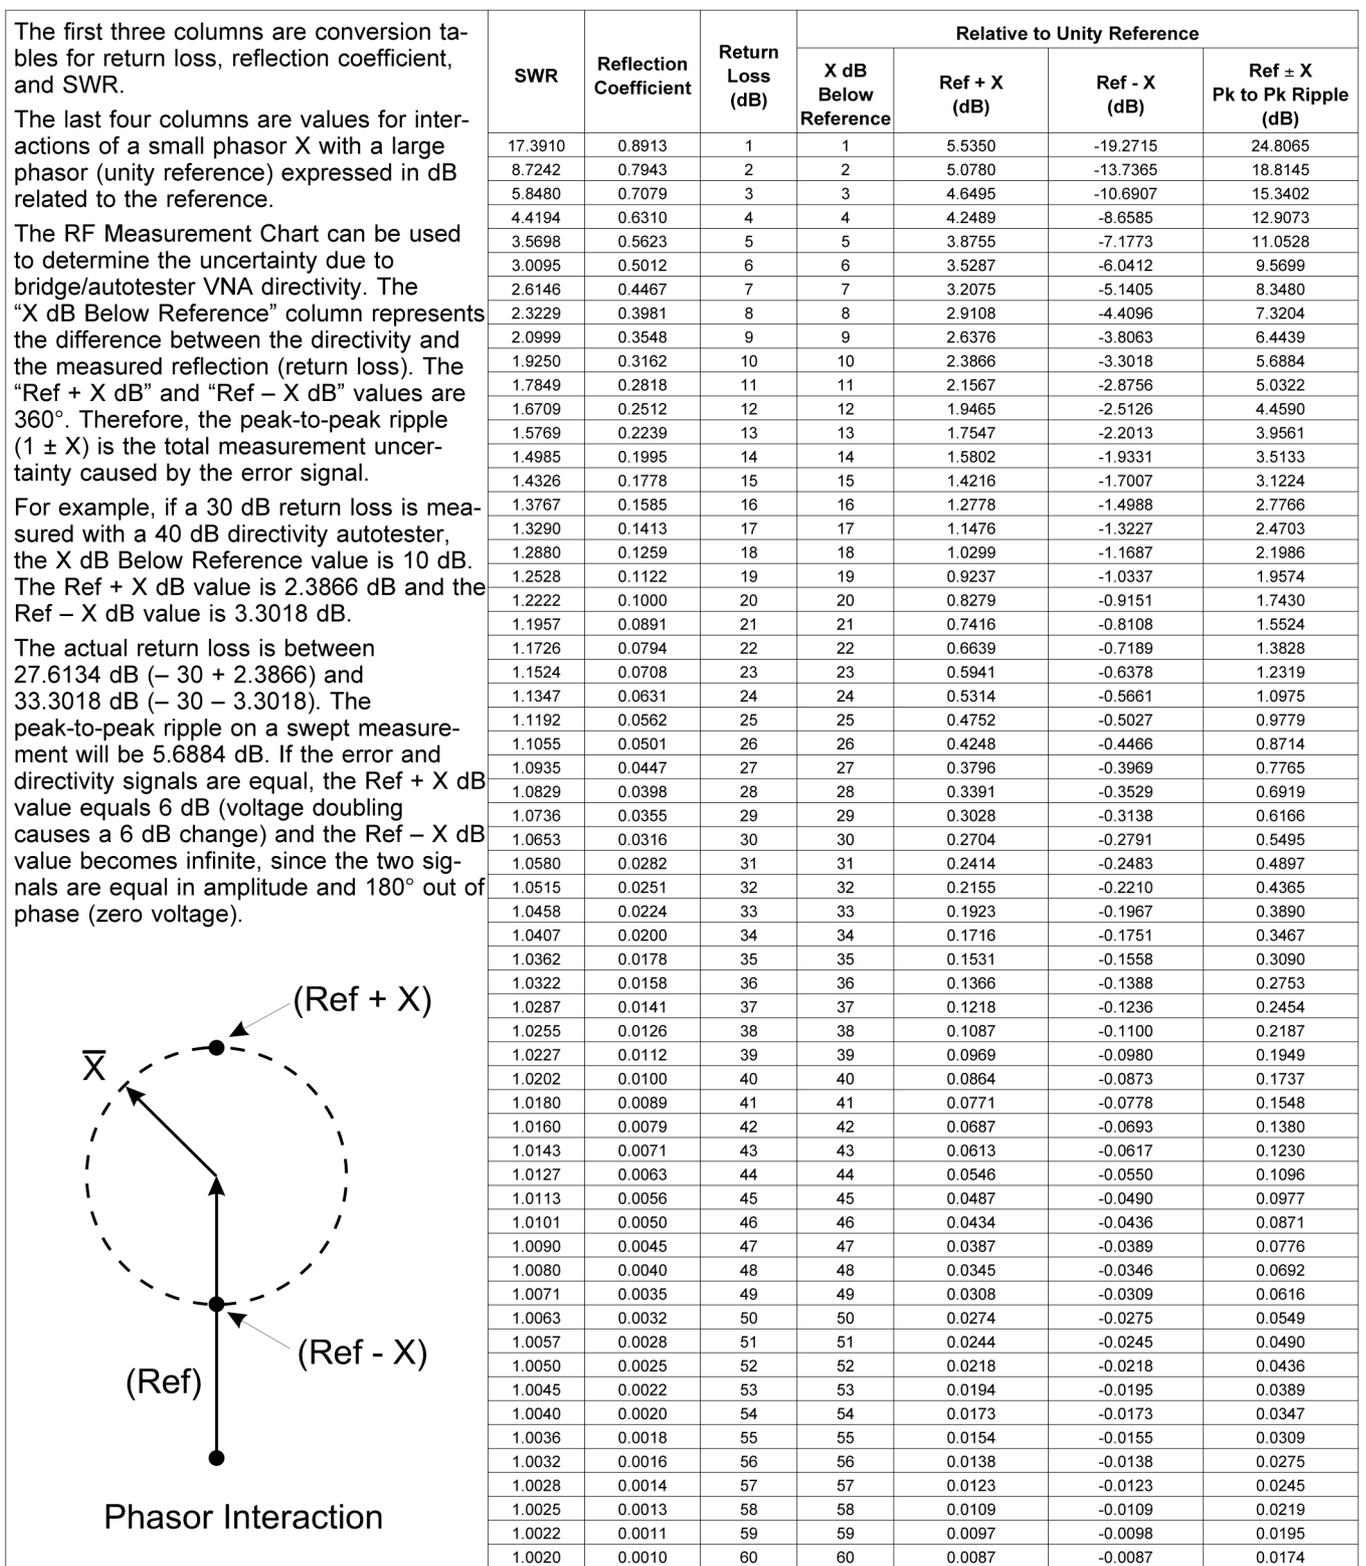

Figure 3-3. RF Measurement Chart
65. Use a RF measurement chart in Figure 3-3 on page 3-9 to find the corresponding return loss value of the peak-to-peak ripple value.